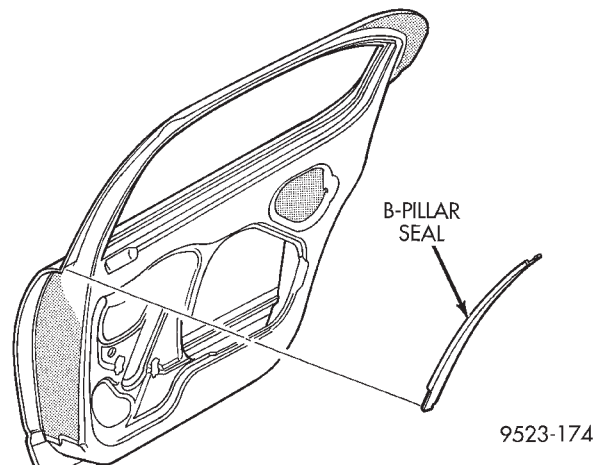

Fig. 72 Rear Door B-Pillar Seal
- (1) Using a suitable heat gun, warm seal to approximately 100° F to ease adhesive separation.
- (2) Peel B-pillar seal from upper door frame, top to bottom (Fig. 72).
- (3) Clean adhesive residue from door frame.